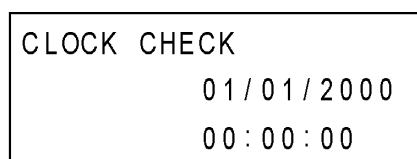
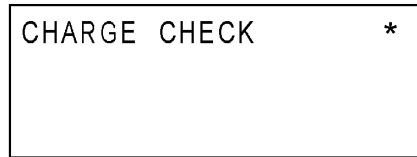

Fig. 45
Fig. 46
- (1) Press the "RET" key. The display shifts to one as shown in Fig.45.
- (2) Once resets the RTC time and reads the current time to display.
- (3) Press the "RET" key while the LCD displays as shown in Fig.45. The display shifts to the Charge Check Mode as shown in Fig.46.